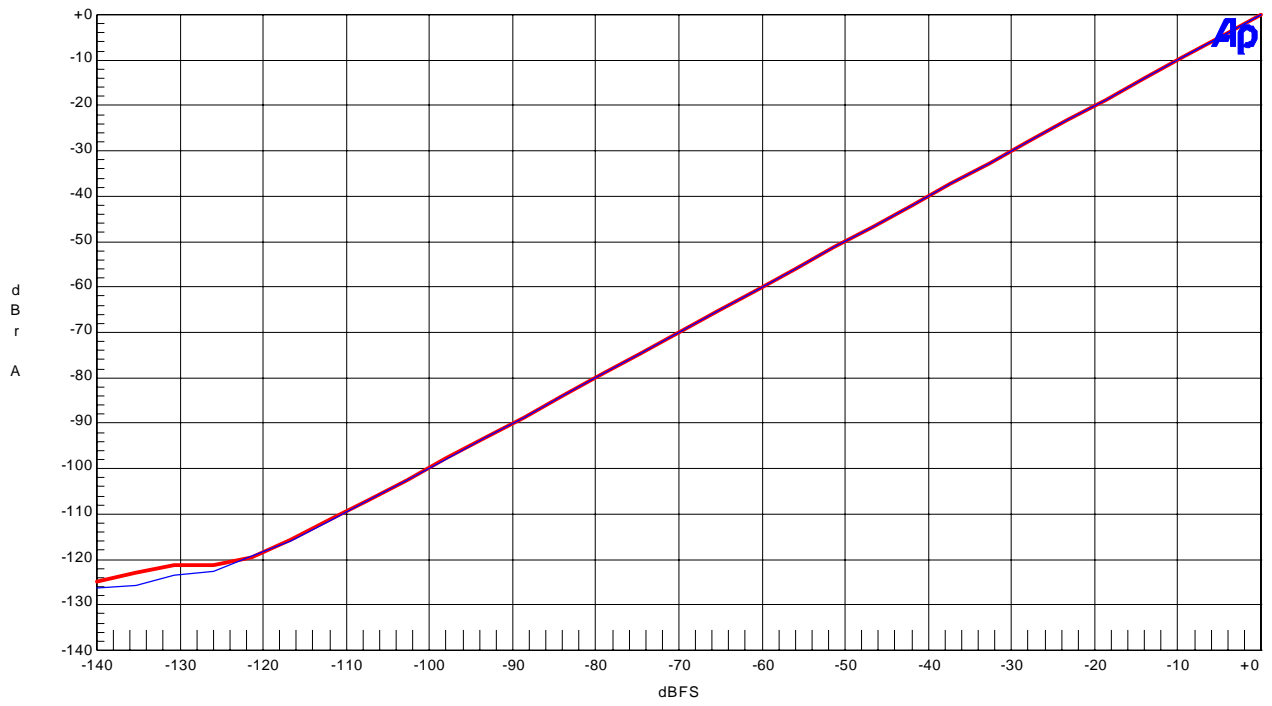

Figure 16. Linearity (fin=1kHz)
- Figure 16. Linearity (fin=1kHz)